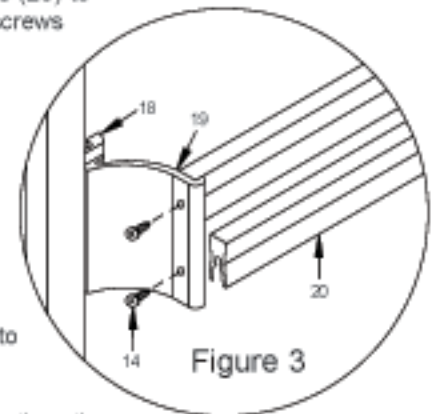

Figure 3
9. Repeat Step #8 on the outside slider making sure that the towel bar brackets (19) are on the outside. Assemble towel bars (20) to towel bar brackets with four #6 x 3/8" SMS screws (14). (See Figure 3.)
11. Secure bumpers (4) in place with a #6 x 1/2" screw (5). **NOTE:** Glass panels close into the recessed portion of the bumpers. The recess is toward the inside of the tub on the showerhead jamb, and toward the outside on the other jamb. From inside of unit, drill #31 holes through header and into wall jambs. Secure header to wall jambs with two #6 x 3/8" SMS screws (14).